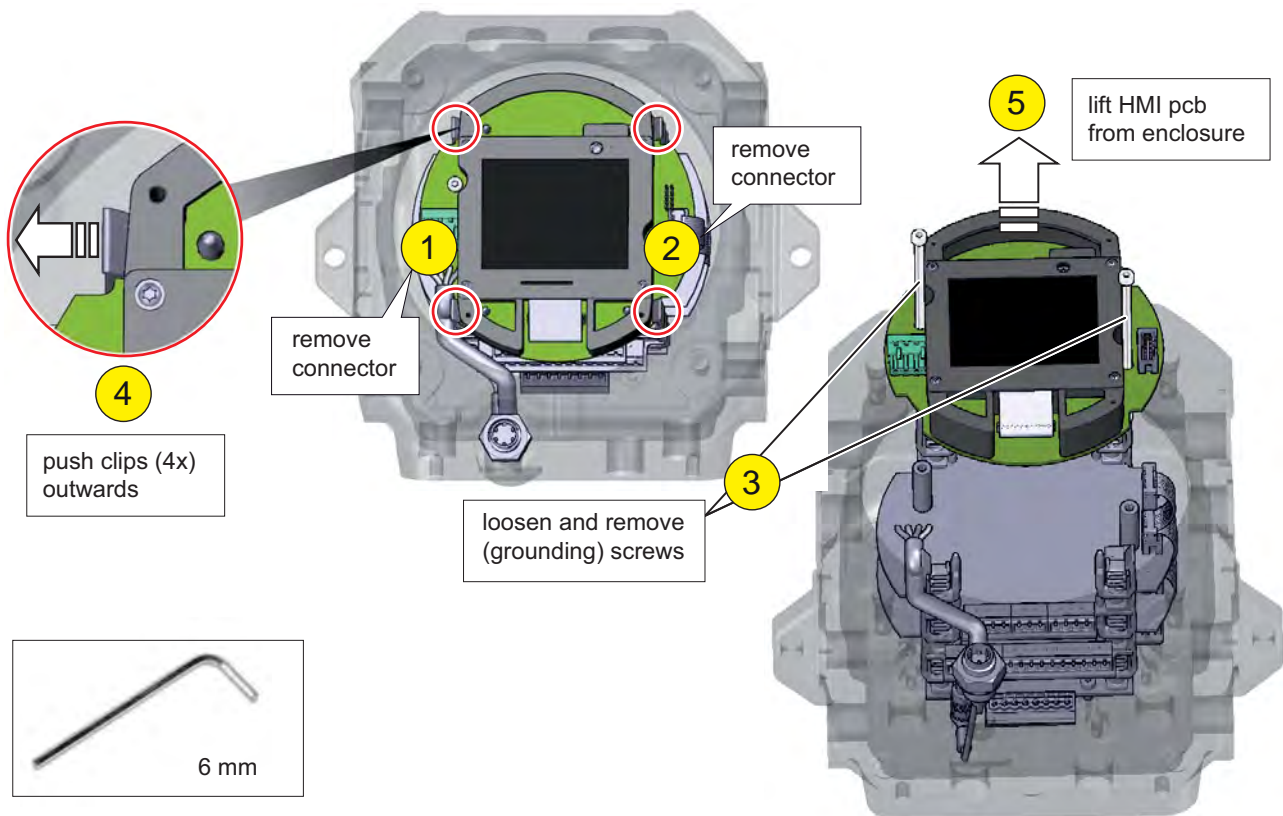

FIGURE 4-6
1. Remove the CAN-HMI-SSC board. See FIGURE 4-6.